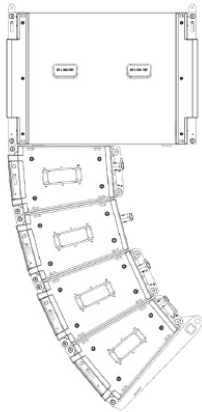

Fig. 8. SM10-SM10-SM10-SM20
- SM10, SM10, SM10, SM20 (see Figure 8)